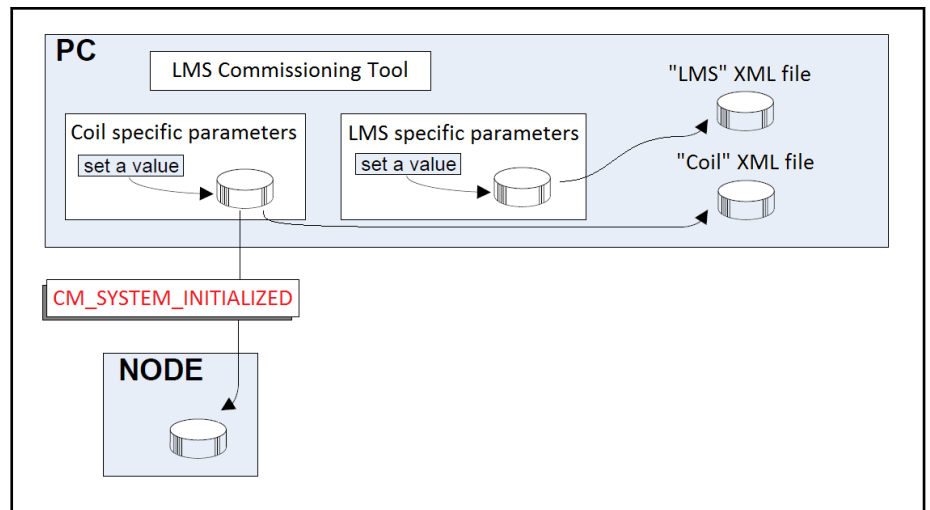

Fig. 2-3: Parameter handling of the Commissioning Tool
- Parameter handling** The way parameters are handled by the Commissioning Tool is shown in fig. 2-3 "Parameter handling of the Commissioning Tool" on page 5. LMS-specific parameters and coil-specific parameters are handled differently. Entered parameters in the Commissioning Tool are written to shared memory on the PC when you select a different field. The coil-specific parameters are stored on the node only when the system is initialized.